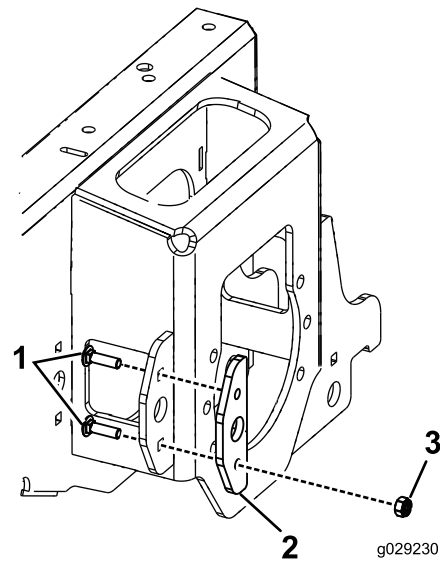

Figure 1
8. Install the wear plate on to the outside face of the existing front lift bracket using the carriage bolts and M10 nut (Figure 1).